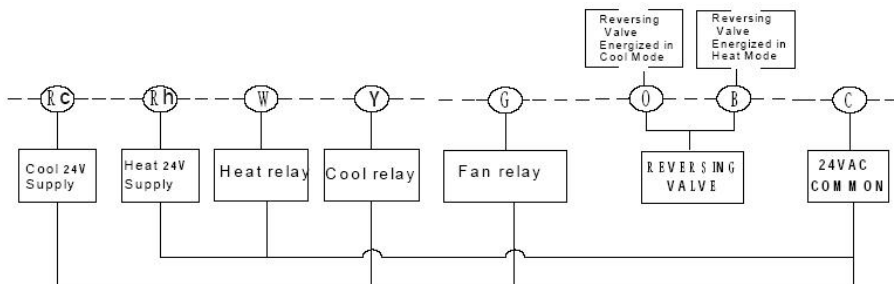

Figure 3, Typical wiring diagram for heat/cool, 5 wire two transformer system.
9. Insert stripped, labeled wires into matching wire terminals. See "Wiring Diagrams", Section 3, Figure 3.